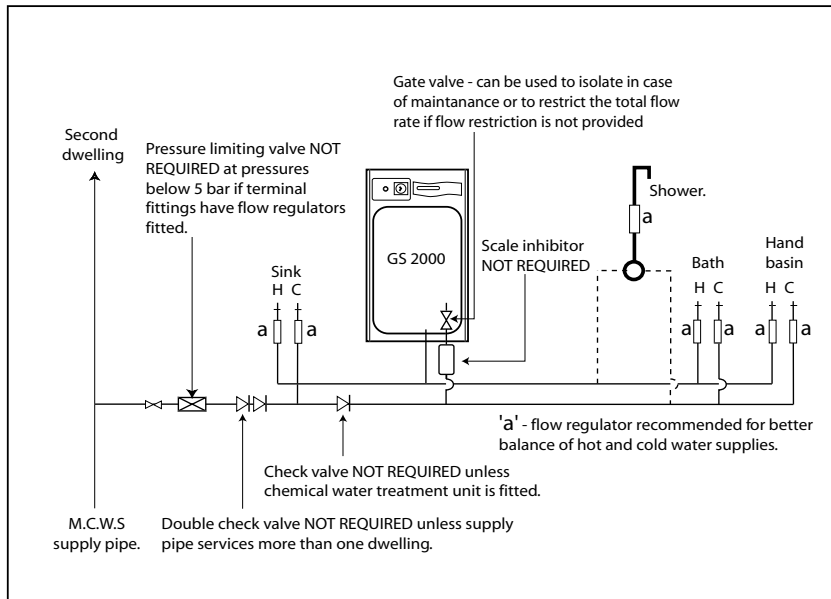

Figure 9 Hot & Cold Water Distribution Network
3. **We would recommend that best results for a balanced system are achieved by fitting appropriate flow restrictors to each hot and cold outlet. These MUST be fitted in cases where the final branch pipe sizes are not as recommended in item 4 or water pressures are above the recommended water pressure range of 2-3 bar. See Appendix B for details of suitable flow regulators.**
7. Typical cold and hot water distribution network is shown in Figures 9 and 10.